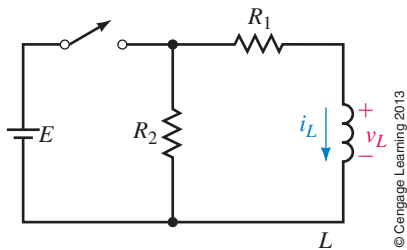
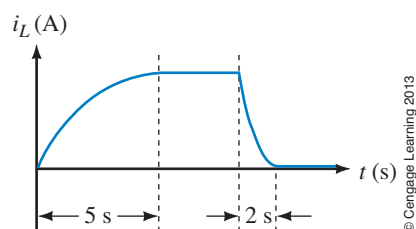

FIGURE 14-43
FIGURE 14-44
14. For Figure 14-43, $E = 80$ V, $R_1 = 200$ Ω, $R_2 = 300$ Ω, and $L = 0.5$ H.
15. For Figure 14-43, $R_1 = 20$ Ω, $R_2 = 230$ Ω, and $L = 0.5$ H, and the inductor current has reached a steady value of 5 A with the switch closed. At $t = 0$ s, the switch is opened.
18. For Figure 14-43, the inductor voltage at the instant the switch is closed is 150 V and $i_L = 0$ A. After the circuit has reached steady state, the switch is opened. At the instant the switch is opened, $i_L = 3$ A and v_L jumps to -750 V. The decay transient lasts 5 ms. Determine E , R_1 , R_2 , and L .
19. For Figure 14-43, $L = 20$ H. The current during buildup and decay is shown in Figure 14-44. Determine R_1 and R_2 .
20. For Figure 14-43, when the switch is moved to energization, $i_L = 2$ A $(1 - e^{-10t})$. Now open the switch after the circuit has reached steady state and redefine $t = 0$ s as the instant the switch is opened. For this case, $v_L = -400$ V e^{-25t} . Determine E , R_1 , R_2 , and L .